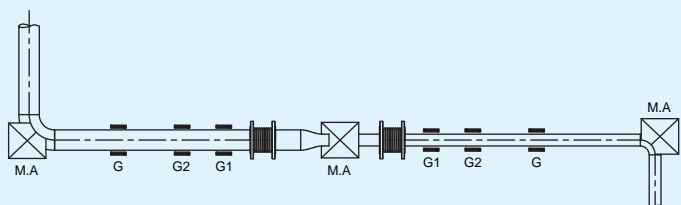

Figure 1.4
Figure 1.4 typifies good practice in the use of Expansion Joints to absorb axial pipe line expansion in a pipe line containing a reducer. The anchor at the reducer is a main anchor (M.A) designed to absorb the difference in the thrusts of the Expansion Joints on each side of the reducer. Note the nearness of each Expansion Joint to an anchor, the closeness of each first alignment guide (G1), the spacing between the first alignment guide and the second alignment (G2) and the spacing of intermediate guides (G) along the balance of each pipe section.